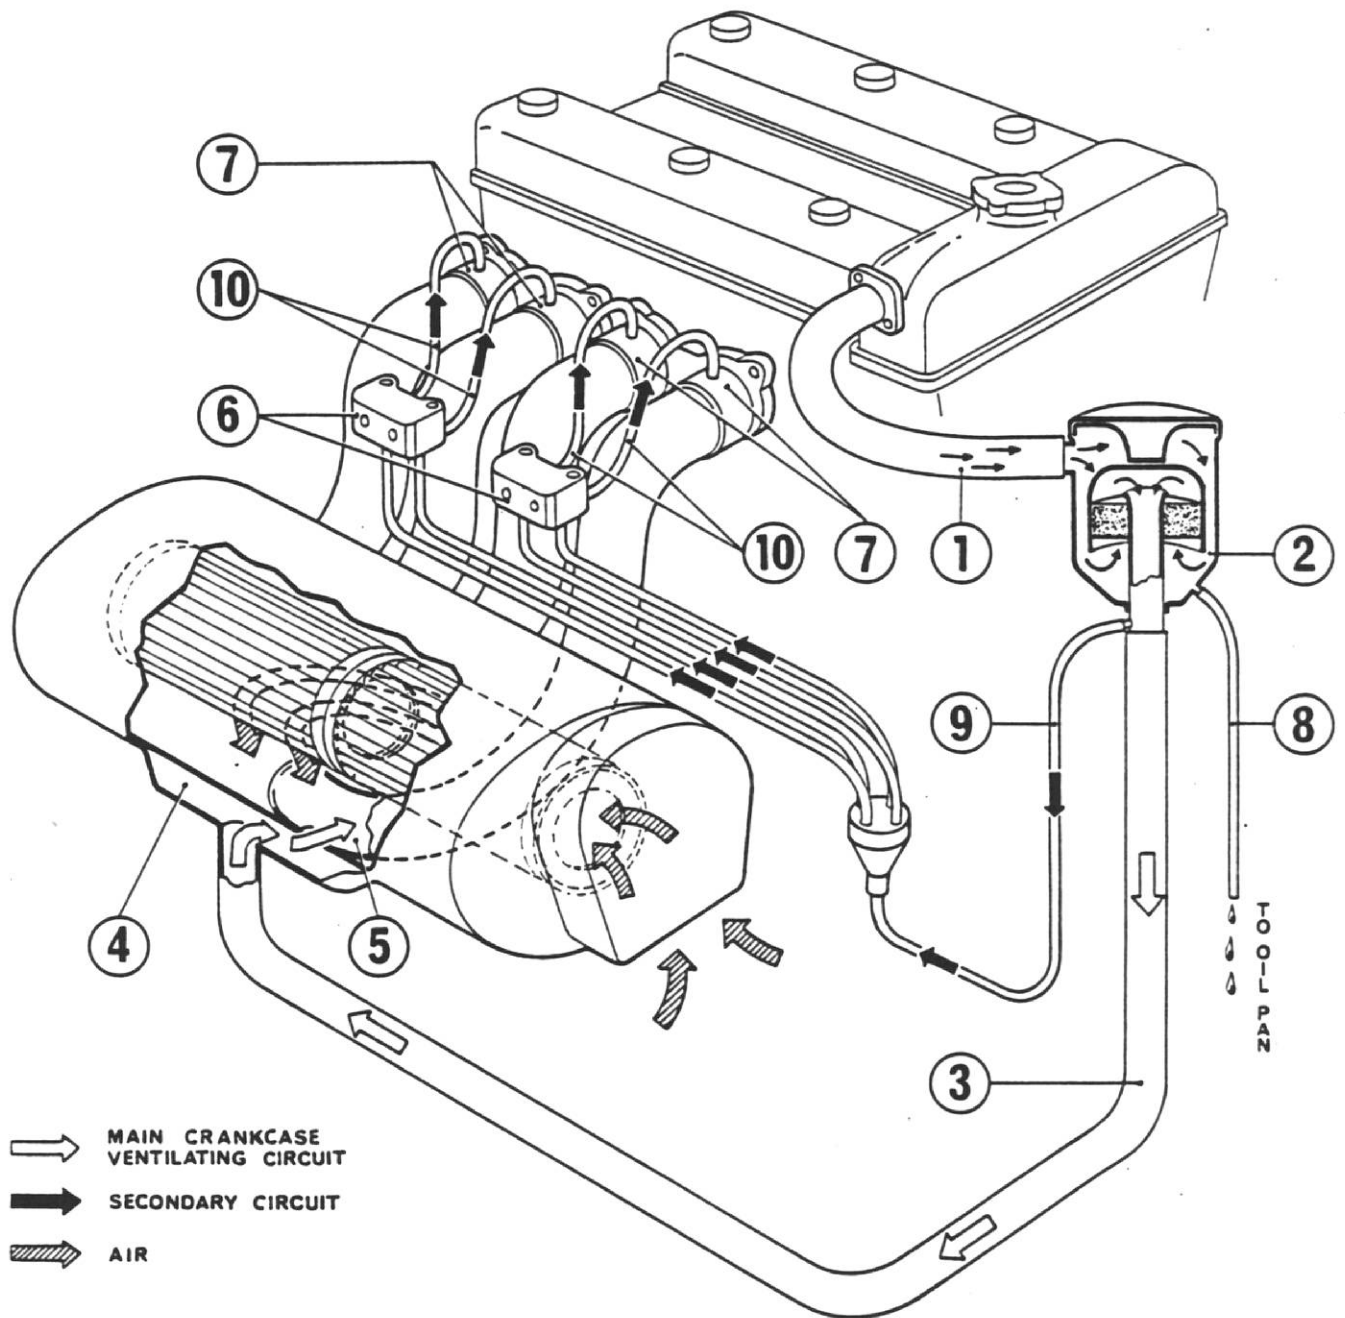

Fig. 3
To provide room for subsequent operations, the air cleaner shall be removed as a whole; to do so, detach the two upper anchoring straps at manifold side (see fig. 3); loosen at the engine side the four clamps on the intake hoses; free the crankcase ventilation hoses (3) and (9) from the oil separator; disconnect the four idle hoses (10) from equalizers (6) on cleaner body.